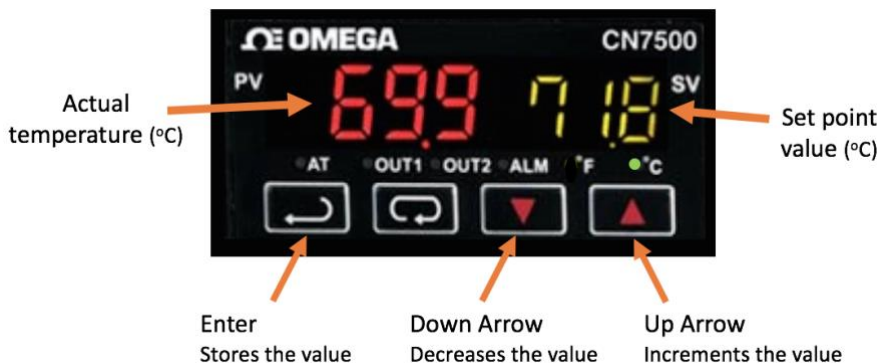

Figure 20. Temperature controller
1. In the corresponding temperature controller, set the new value using the Up and Down Arrows (Figure 20). The new set point value is displayed at the right part of the controller. The new set value is flickering until the enter key is hit.